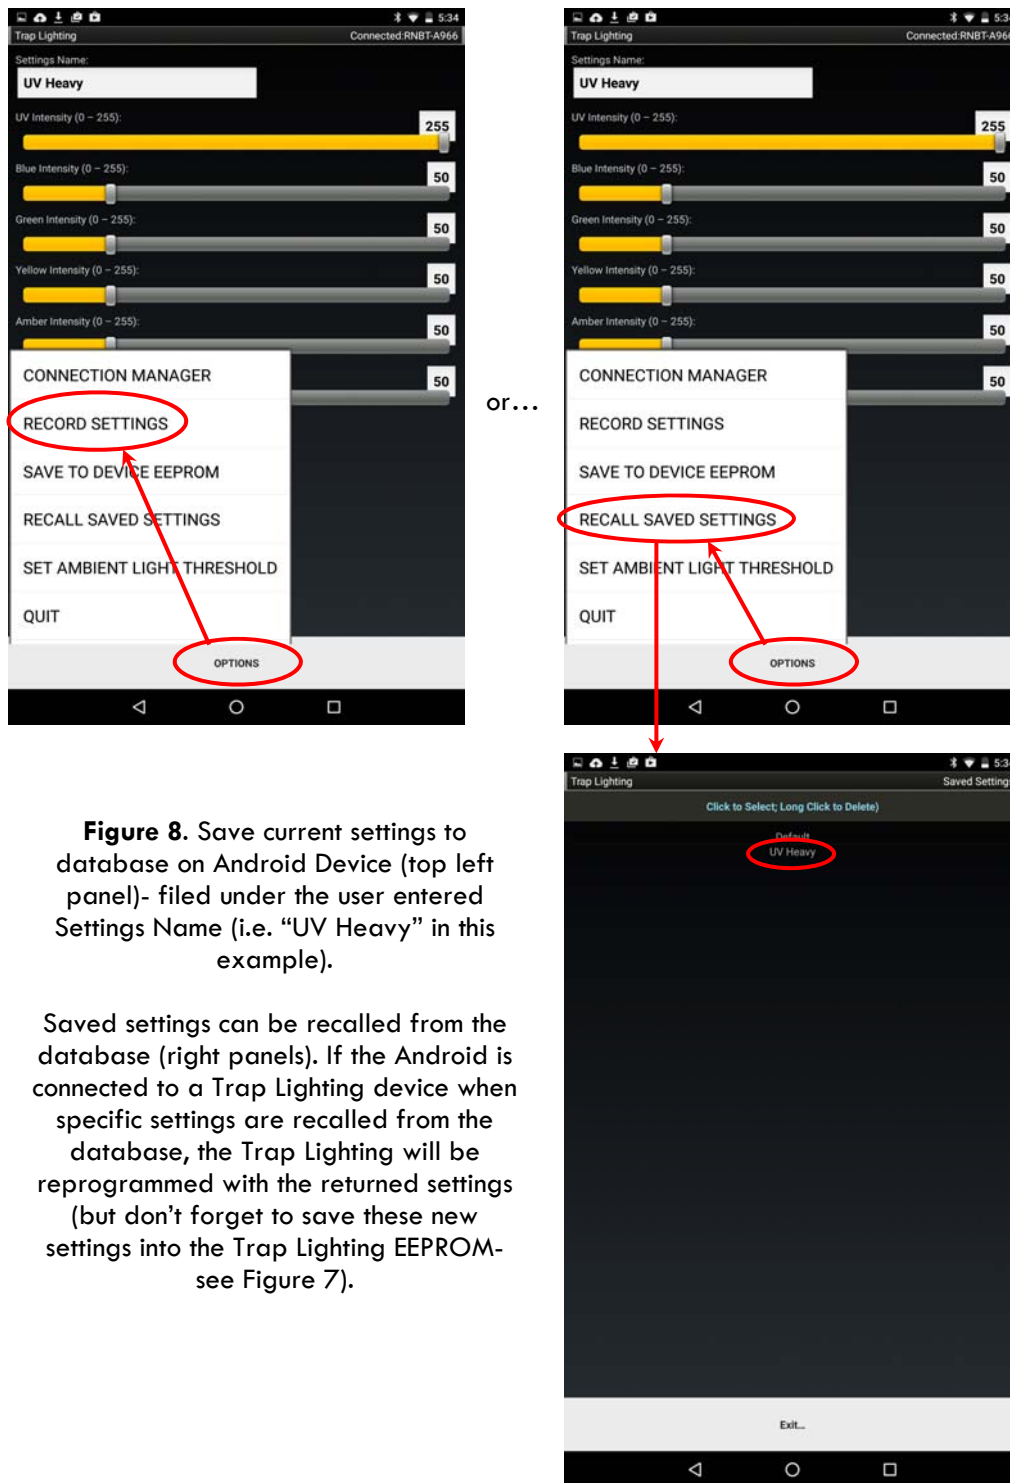

Figure 8. Save current settings to database on Android Device (top left panel)- filed under the user entered Settings Name (i.e. “UV Heavy” in this example).
- *Settings name:* User Defined name to store settings into a settings database on the Android (see section 4, Figure 8)
If programming numerous Trap Lighting circuits with similar settings, it can be useful to save and recall settings from a database within the Android app (Figure 8).